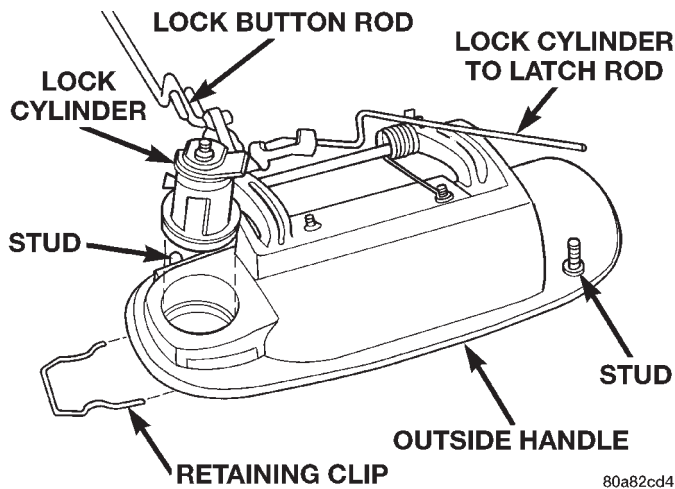

Fig. 30 Lock Cylinder
- (1) Remove door trim panel.
- (2) Remove outside handle.
- (3) Disengage lock cylinder to latch rod from the lock cylinder.
- (4) Using a small flat blade, pry lock cylinder retaining clip from lock cylinder housing/outside handle (Fig. 30).
- (5) Push lock cylinder out of lock cylinder housing/outside handle.